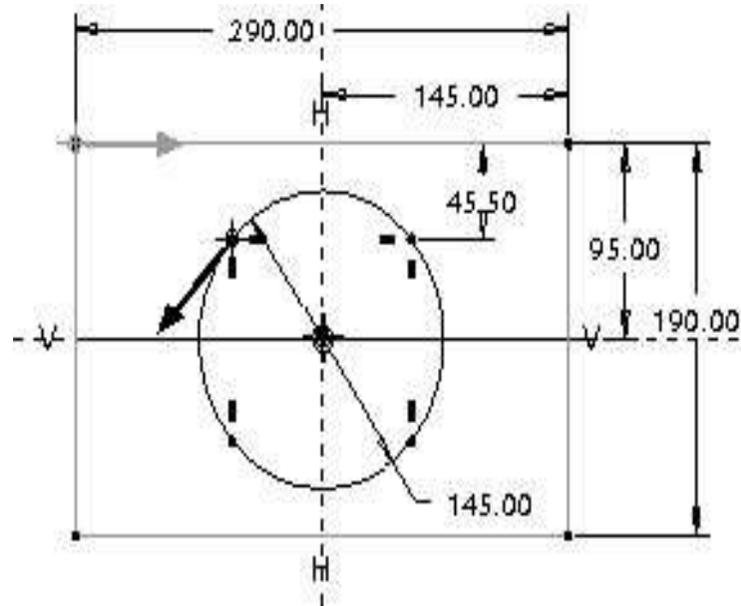

Figure 8-113 Two completed sections
1. Create the sketch for the second section of the blend feature, refer to Figures 8-113.
1. Draw the sketch of the circular section, refer to Figure 8-113. Modify the diameter of the circle to 145.
2. Select the circle at four points, as shown in Figure 8-113.
3. Modify the vertical dimension of the upper left division point, as shown in Figure 8-113. After the circular section is completed, the two sections with dimensions will look similar to the sections shown in Figure 8-113.